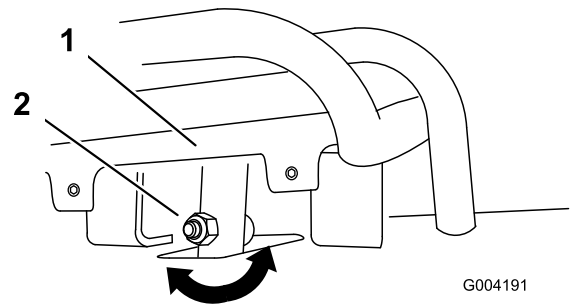
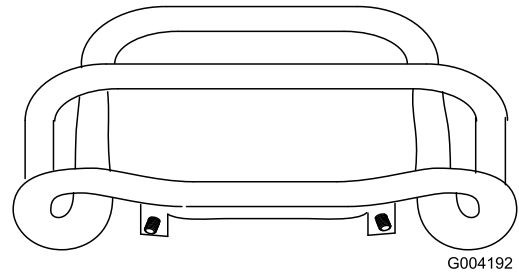

Figure 58
Figure 59
4. If the front of the traction control does not rest square and flush with the reference bar, loosen the flange nut and bolt in the stem of the traction control (Figure 58).
5. Adjust the traction control so that it rests flush against the reference bar when you pull it straight back (Figure 58 and Figure 59).